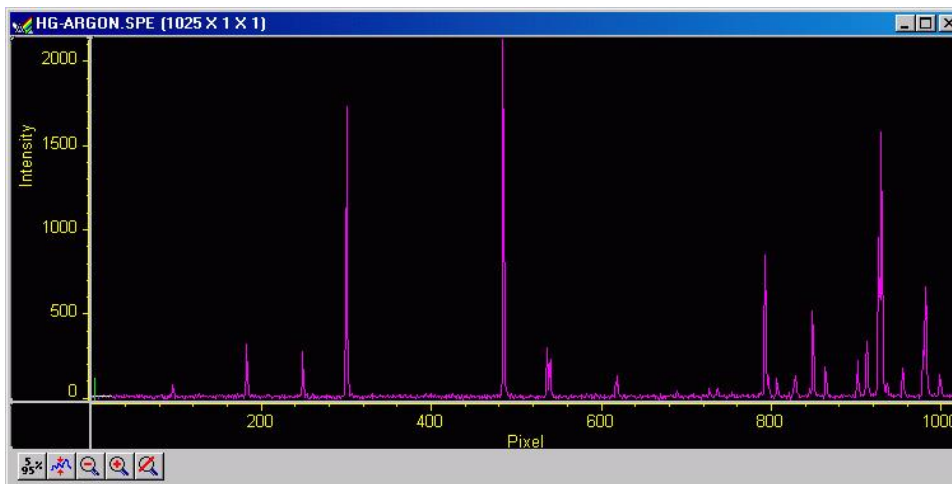

Figure 39. Typical Mercury-Argon Spectrum
The following data collection procedure works for all controllers. An underlying assumption is that a suitable light source is available. Although fluorescent room lighting may be adequate, it will probably prove more instructive to use a standard lamp, such as a mercury-argon lamp that provided the spectrum illustrated in Figure 39.
2. While observing the displayed data, adjust the system optics for the best possible spectrum (lines as high and narrow as possible). Figure 39 shows a typical mercury-argon spectrum. Your results could appear different depending on the spectrograph grating used.